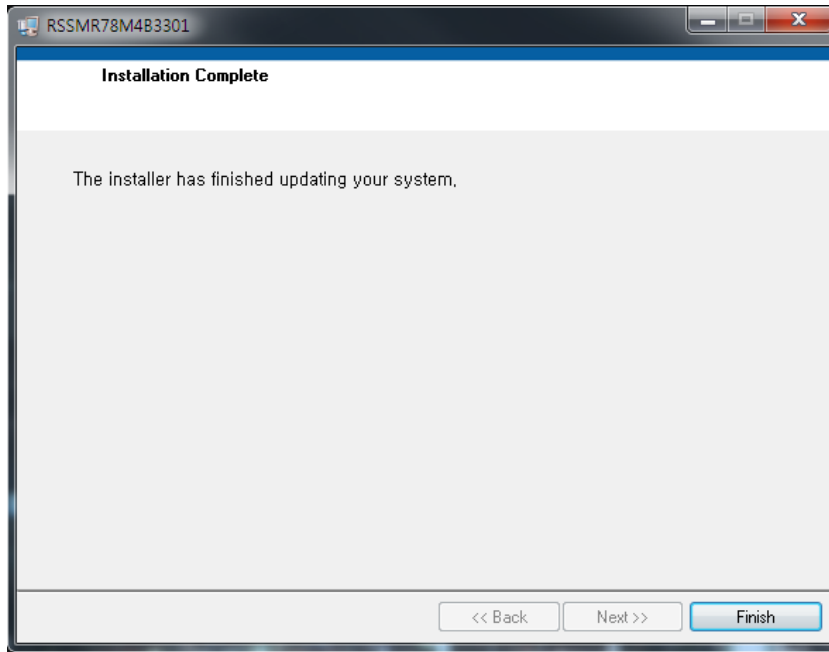

Figure 6-6: Installation Complete
- 5) When the installation is complete, click **Finish**, Figure 6-6.